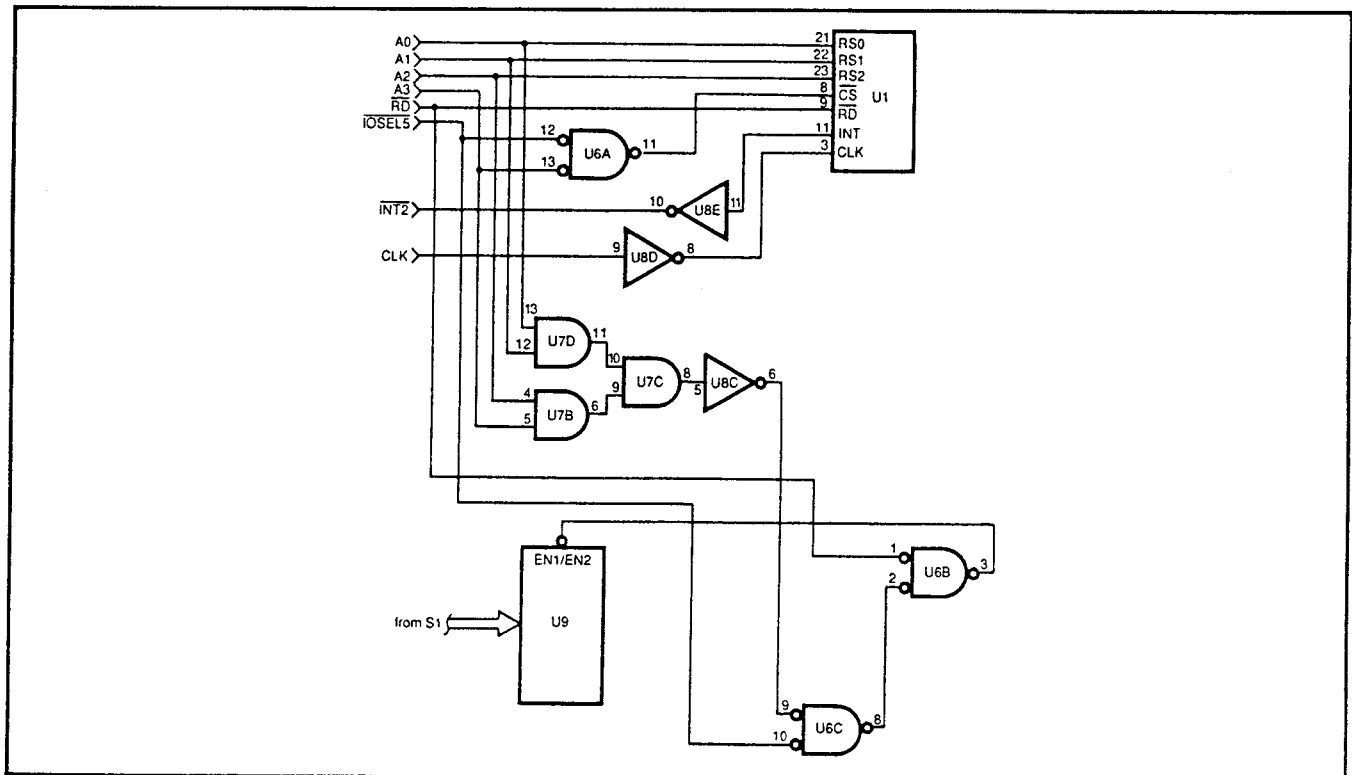

Figure 8-83. Bus Address Circuitry
- c. Bus Address. The 6400's bus address is set using rear panel DIP switch S1. When the 6400 is first turned on, the switch address value is read by the system through data latch U9 (Figure 8-83). Latch U9 is enabled when address lines A0 thru A3 are all logic HIGH (I/O port 05FH) and when $\overline{\text{IOSEL}}_5$ and RD are logic LOW. The A0-A3 address lines are decoded via gates U7B, U7C, U7D, U8C, U6B and U6C. Gate U6A decodes the chip select ($\overline{\text{CS}}$) for U1. Address line A3 is ANDed with $\overline{\text{IOSEL}}_5$ to set the $\overline{\text{CS}}$ line and map the controller into the port space 050H to 057H.